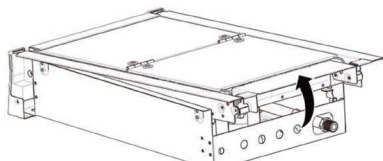

FIG. 1
2. Push back the top glass cover assembly a little and lift up to remove it from the cooktop. (Fig. 1/2)